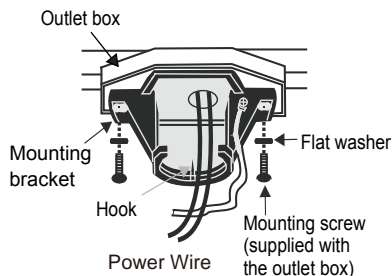

Fig. 5
Step 1. Pass the power wires through the center hole in the mounting bracket as shown in Fig. 5.